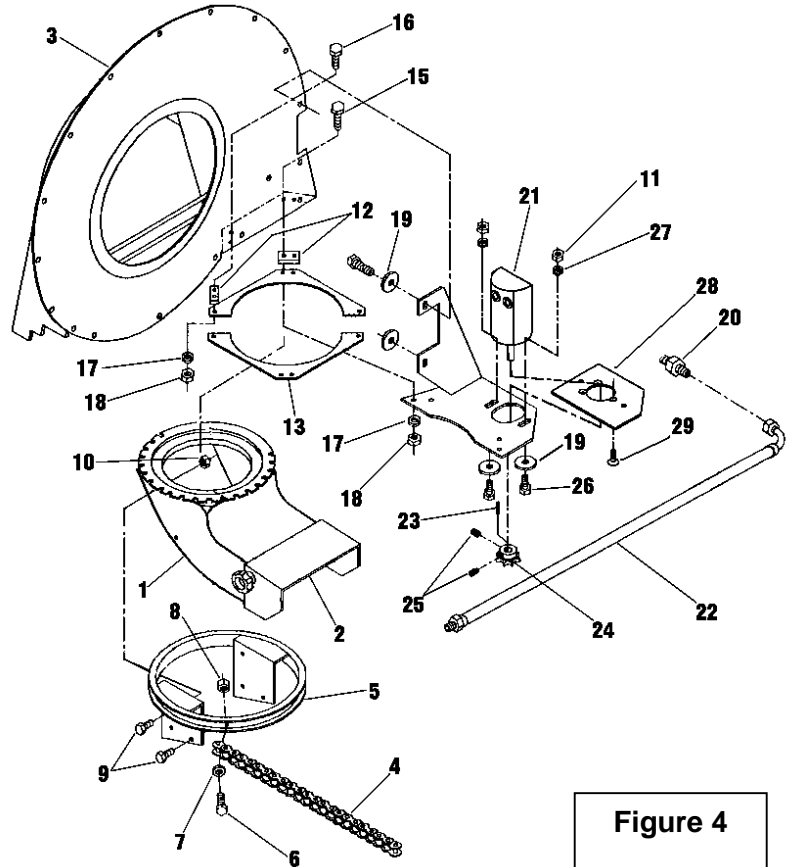

Figure 4
1. Remove the air blast nozzle (fig.4, item 1) from the debris blower. Discard bolts and nuts.
2. Remove the deflector (fig.4, item 2) from the air blast nozzle. Keep bolts and nuts on hands.
#### AIR BLAST NOZZLE ASSEMBLY (Fig.4)
### HYDRAULIC MOTOR ASSEMBLY (Fig.4)